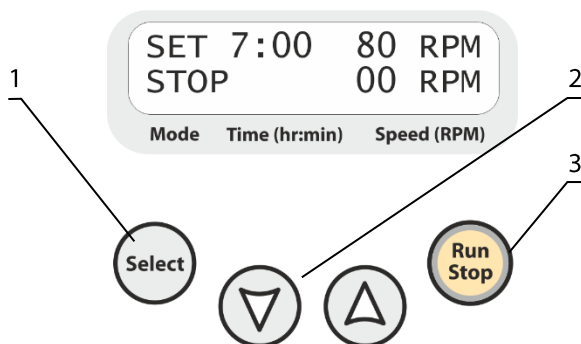

Figure 4. Control panel of CTR-6
5.3. **Setting the parameters.** Press the **Select** key (fig. 4/1) to choose the parameter to change. Each pressing of the **Select** key consecutively activates the parameters. The active parameter is flashing. Use the ▼ and ▲ keys (fig. 4/2) to set the necessary value. Pressing the key for more than 2 s increases the speed of value change.
5.4. Press the **Run Stop** key (fig. 4/3). The platform starts rotation, indication RUN appears on display and the timer in the lower line of the display starts counting the time interval.